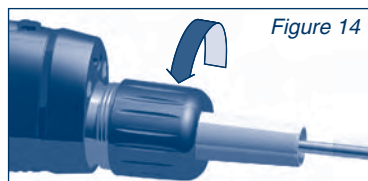

Figure 14
- 3) Unscrew the connecting-nut (turn by hand, counterclockwise, figure 14).